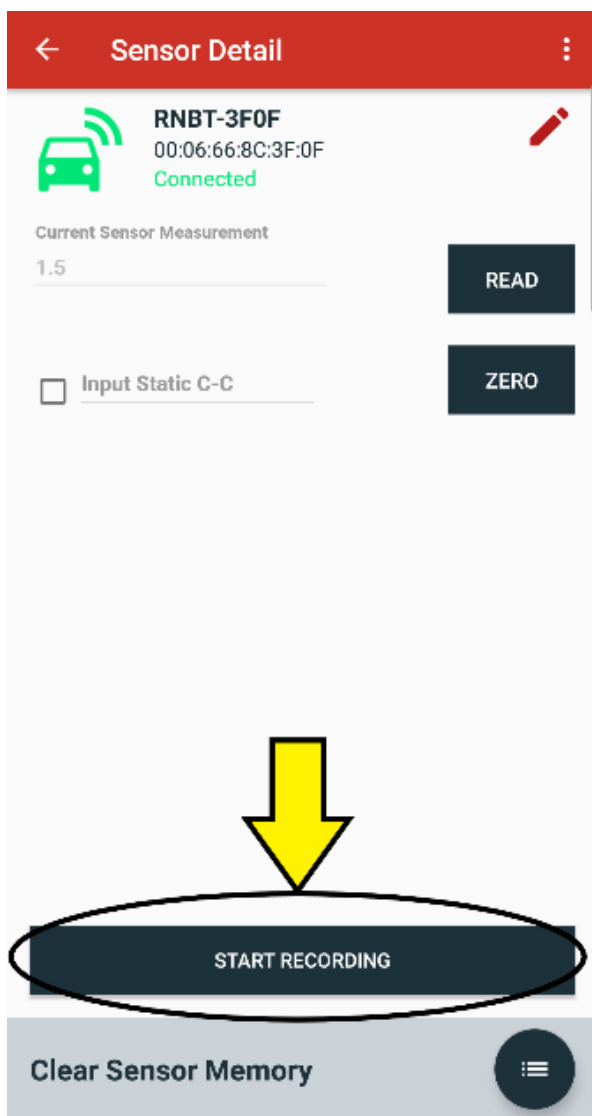

Figure 20: Start recording button
6. When the car is ready to leave the pits and go to the race track for an event (i.e. practice run, heat, or feature, etc.), you will need to activate the recording function on the sensor. Press the “START RECORDING” button, found in Figure 20.